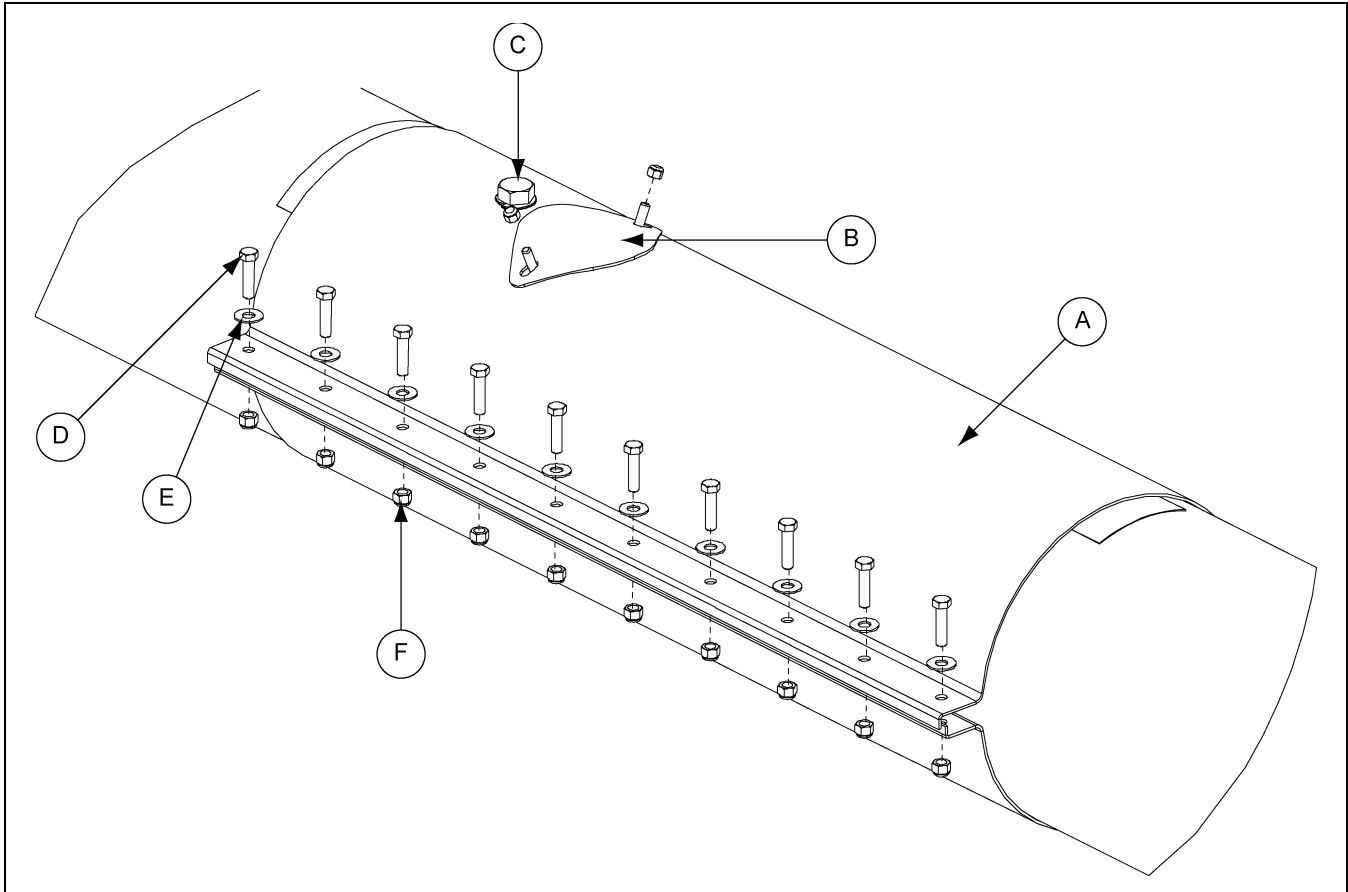

Figure 4U
5. With hanger bearing secured bolt connecting band (A) to tubes using the 3/8"-16 x 1-1/2" hex bolts (D) and attach access cover (B) using included nylock nuts. (See Figure 4U.)